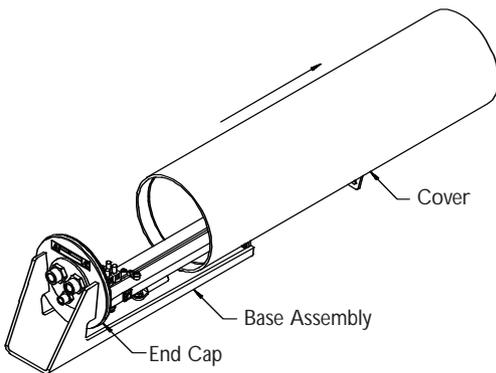

FIGURE 20 Replacing the Cover
2. Replace the cover onto the base assembly by grasping the cover and gently pushing it over the end cap and o-ring. Make sure the o-ring is not pinched. See FIGURE 20